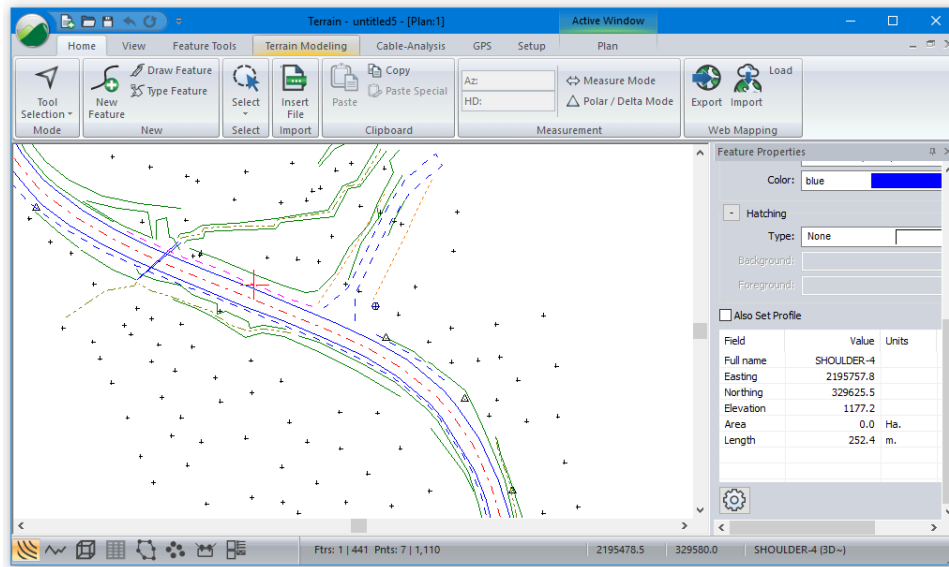

Figure 3-10: Survey1.txt Imported with More Point Codes Defined
31. This will open the *Import Options* dialogue; click on the *Code* tab to see the extra codes defined – no changes are required. Press **OK** to import the file. Softree Warning message hit *Continue*. Your options and windows to look like Figure 3-10.